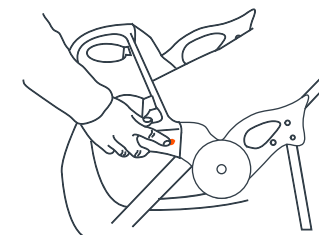

Fig. 13a
- 13) • To access the child seat: press inward on left side tray release button and rotate upward on the tray (Fig. 13a).